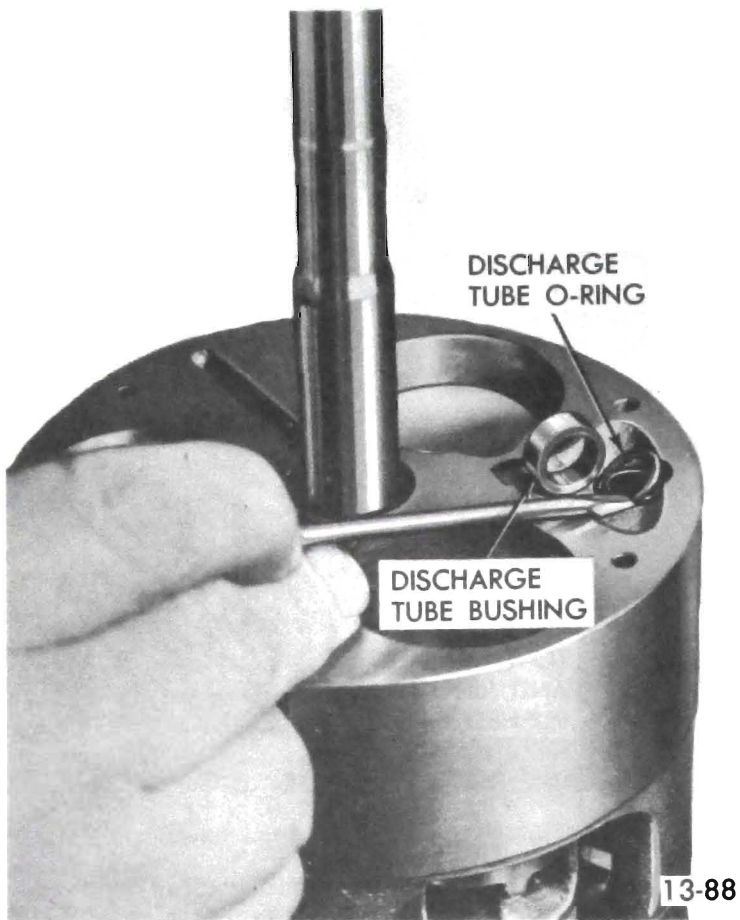

Figure 13-70 Installing Discharge Tube O Ring and Bushing
8. Assemble both service replacement discharge tube "O" rings and bushings (see Figure 13-70) onto cylinder assembly.